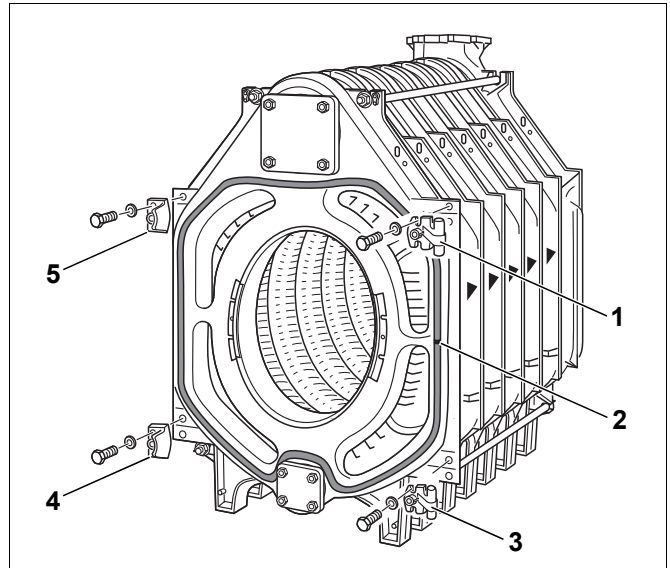

Fig. 31 Installing the hinge hooks and the closure bars
- Insert a few drops of silicone adhesive every 15 to 20 cm into the packing grooves (Fig. 31, [2]) on the front section (Fig. 31).
- Insert the GP cord into the packing groove on the front section. Position the butt ends of the packing cord on the side of the section (Fig. 31, [2]).
- Secure each hinge pin (r.h. fitting) with 2 x M12 x 55 to the front section (Fig. 31, [1] and [3]). Fit to the l.h. side for l.h. hinges.
- Secure the closure bars with leading edge for the burner door (r.h. mounting) with 2 x M12 x 55 each to the front section (Fig. 31, [4] and [5]). Fit likewise to the r.h. side for l.h. mounting.